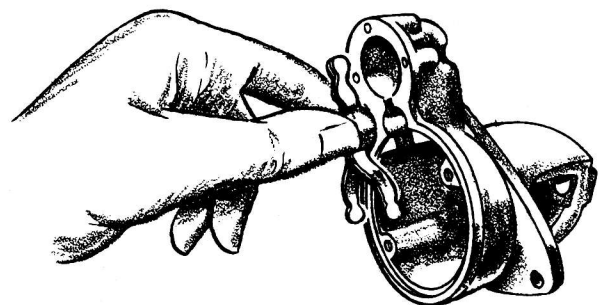

FIGURE 46. INSTALLING SHIFT LEVER
6. Insert the shift lever as shown in Figure 46 into the front bracket.